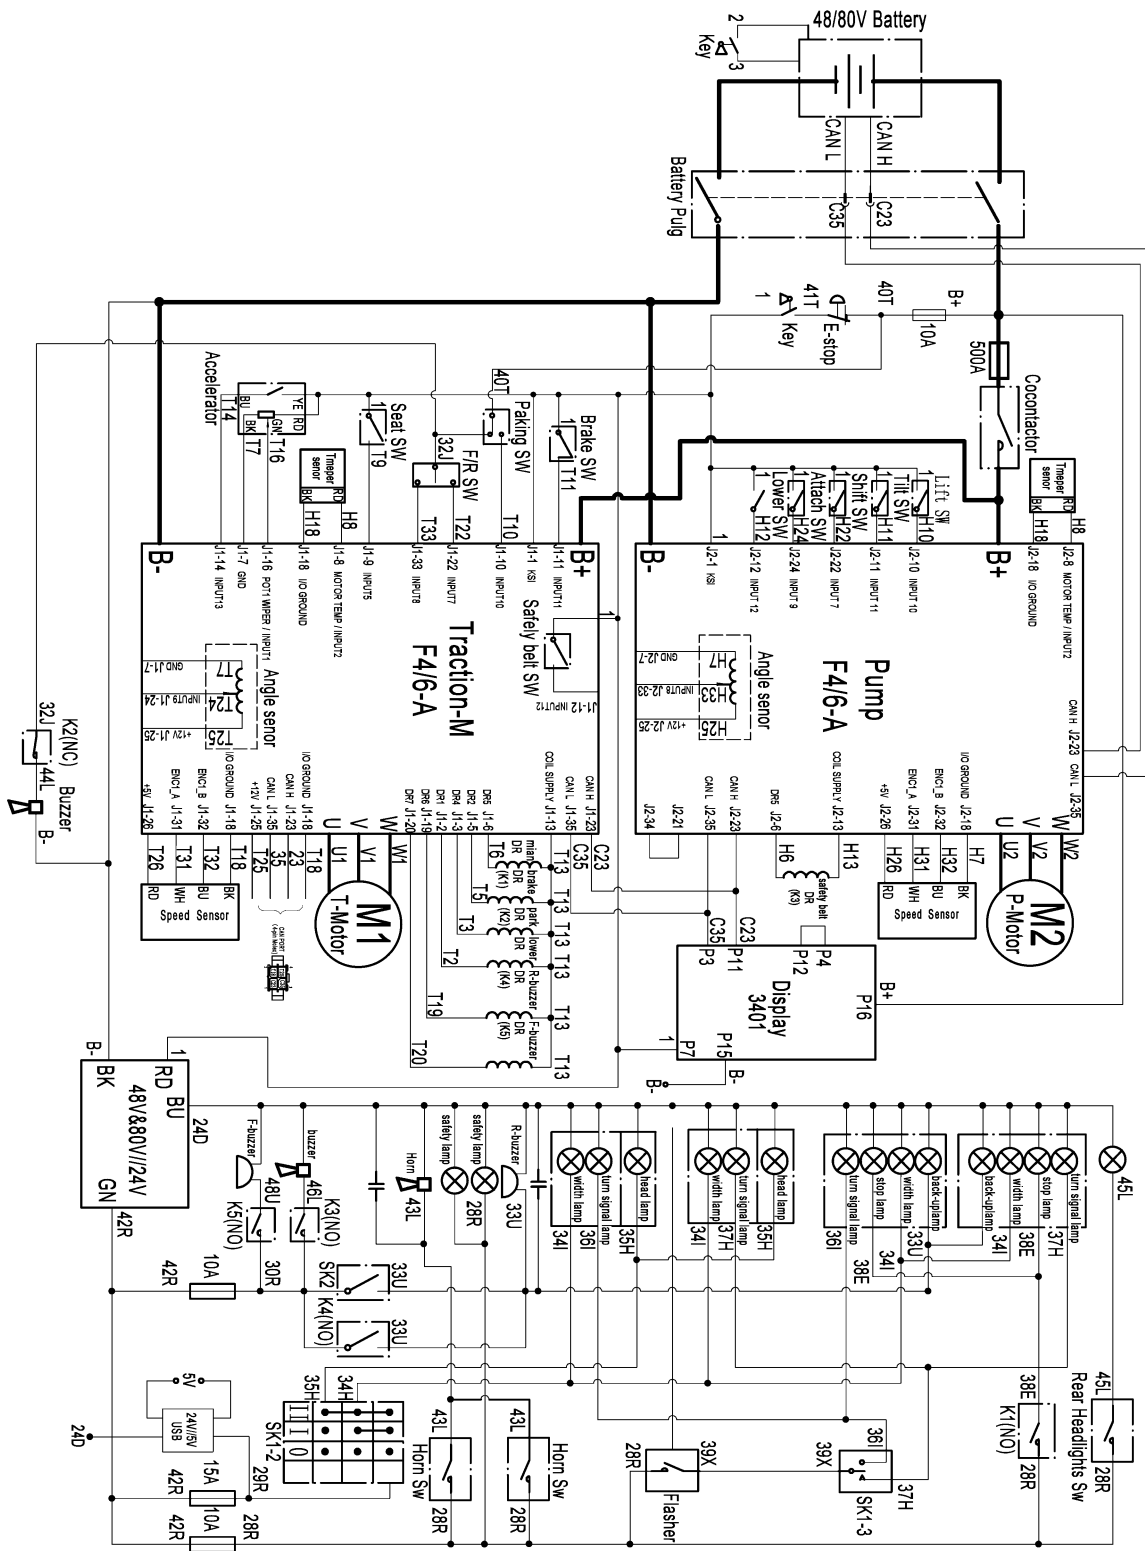

Figure2-22 Electrical schematic diagram—Curtis
4.2.1 Electrical schematic diagram—Curtis(Figure2-22)